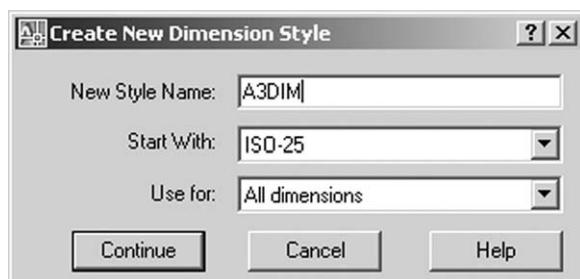

Figure 14.3 The Create New Dimension Style dialogue box.
- c) Use for: All dimensions – Figure 14.3